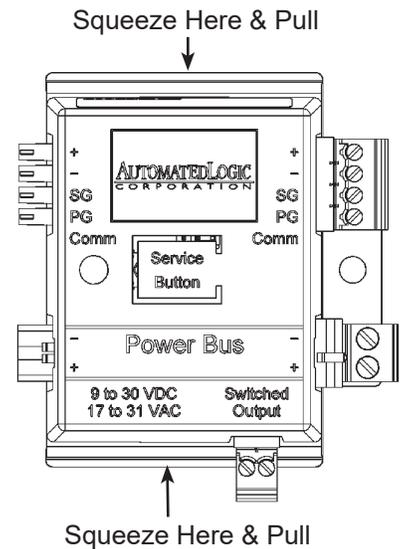

Fig 9: Output Module Cover Removal
1. An **Override** variable can only be trained in parallel with a previously trained **Setpoint** or **Temperature** output module. Train the **Setpoint** or **Temperature** output module as described above. Remove the Output Module's cover by squeezing the top and bottom of the cover as shown in Fig 9. Apply power to the receiver and output modules ALC/(VOM,ROM,COM). **Note:** Loop power must be connected and turned on for current output modules, ALC/COM.